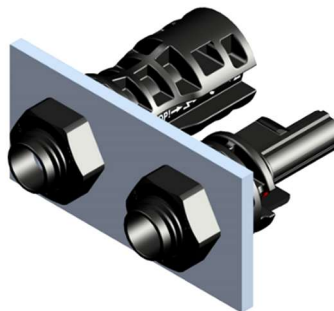

Figure 17
- ✧ 安装公/母面板连接器时，推荐用 2.0 N.m 的扭矩锁紧螺母。具体情况，需要由终端用户根据不同的面板验证合适的扭矩 (如图 17)。
When installing the male or female panel connector, it is recommended to use 2.0 N.m torque lock nut. The appropriate torque has to be verified in the end use according to the respective housing (Fig.17).